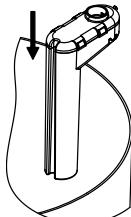

Figure 12b
- Disconnect the tip from the shutoff device by clicking on the button at the end face of the shutoff device (Fig. 12b);
- Press down your thumb on the back of the cover until it moves forward, as shown in (Fig. 12b).